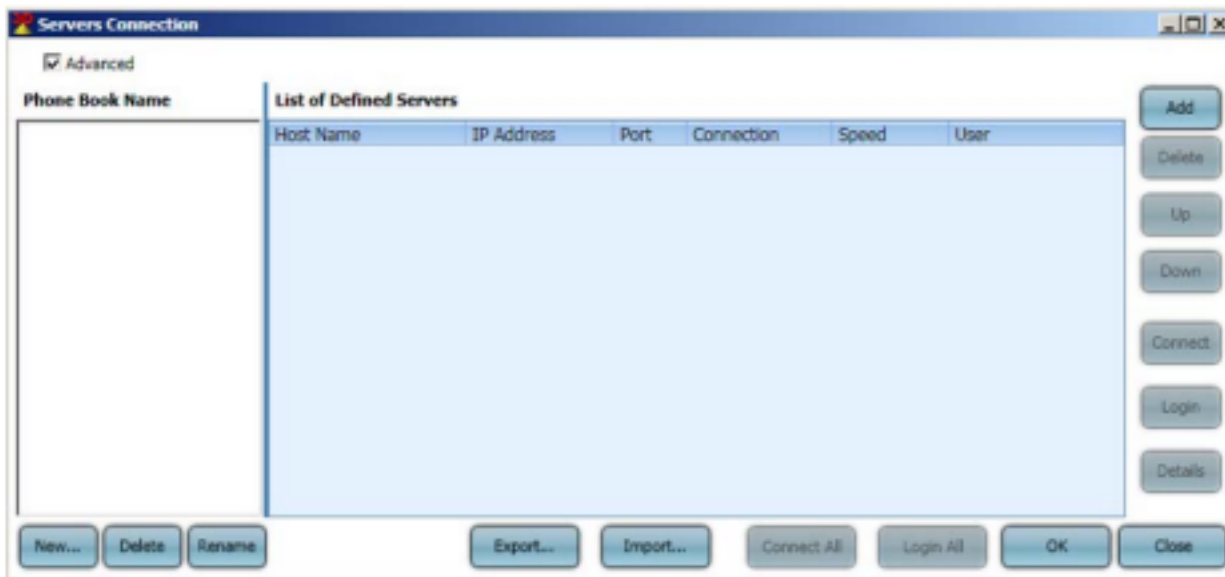

Figure 80: Servers Connection window
- 2 Check the **Advanced** checkbox in the top left corner of the Servers Connection window. Additional options appear in the window (*Figure 80 below*).